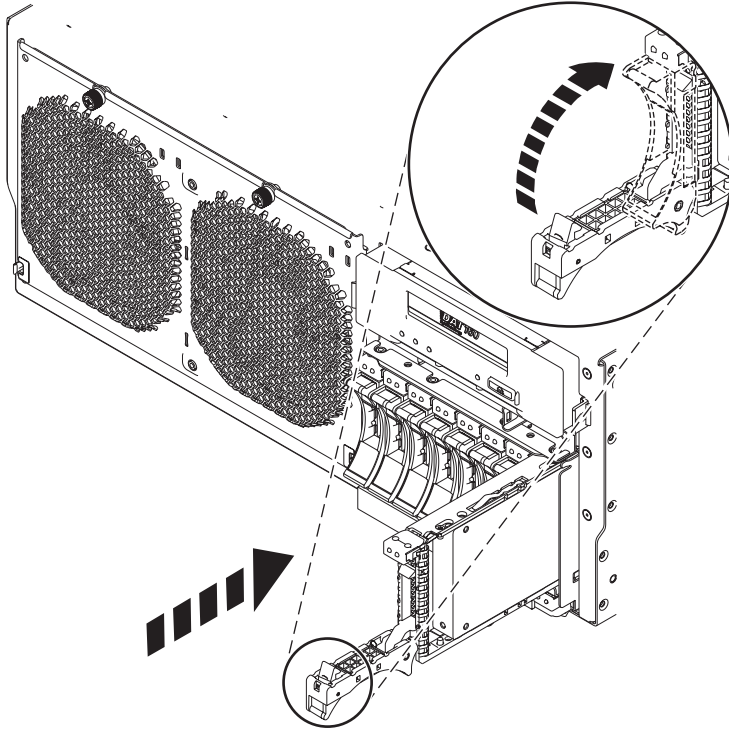

Figure 24. Replacing a disk drive or solid-state drive in the system
6. Slide the disk drive or solid-state drive all the way into the system or an expansion unit, and push the drive handle (A) in until it locks, as shown in Figure 24 on page 42.